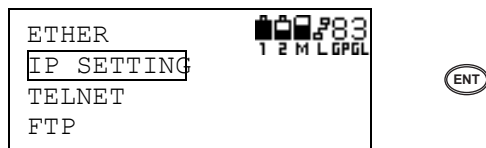

Figure 3-83. Select IP Setting and Press Enter
3. On the ETHER screen, select IP SETTING and press **ENT** (Figure 3-83).